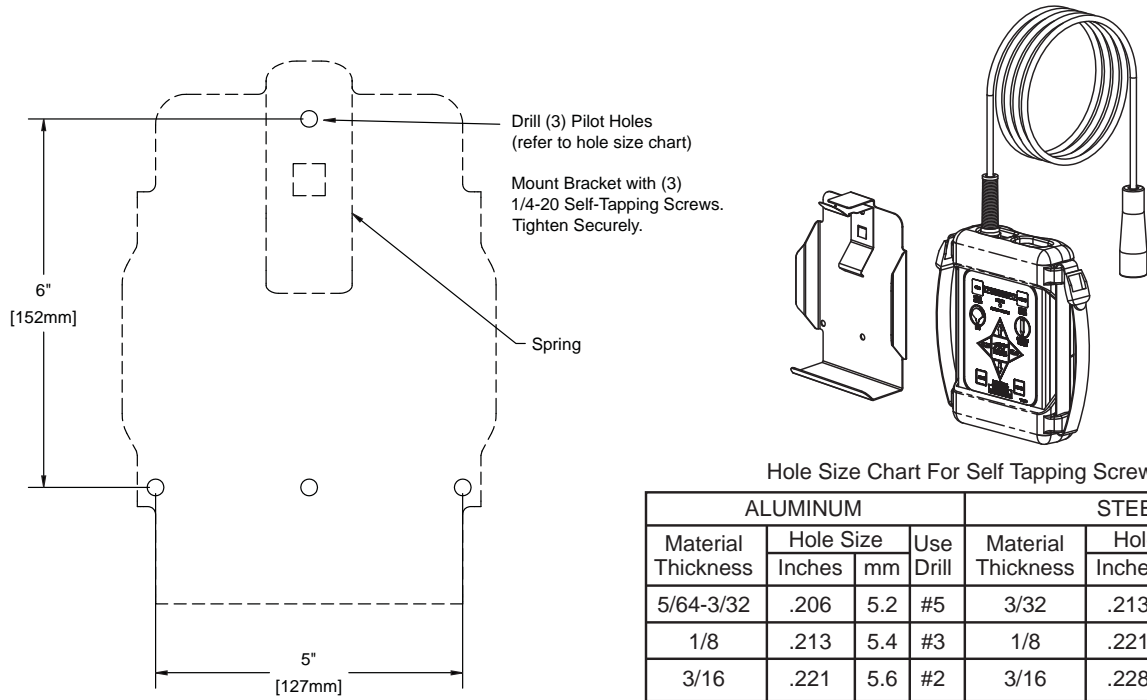

Figure 2.3.1
The storage bracket is supplied with (3) 1/4-20 stainless steel self-tapping screws. Make sure the material beneath the bracket is substantial and thick enough to hold self-tapping screws. Make sure the area on the backside of the mounting surface is clear of obstructions. We recommend a minimum thickness of 3/32" (.093" - 2.4 mm) in aluminum and 5/64 (.078"-2mm) in steel. See the chart in Figure 2.3.1 to determine the correct pilot hole size.
Select proper location for mounting storage bracket. Panel space required will be 6.0" x 11.2" (152 x 285mm). Refer to Figure 2.3.1 for hole dimensions. Bracket can be used as a template. **Be sure spring is in position.**